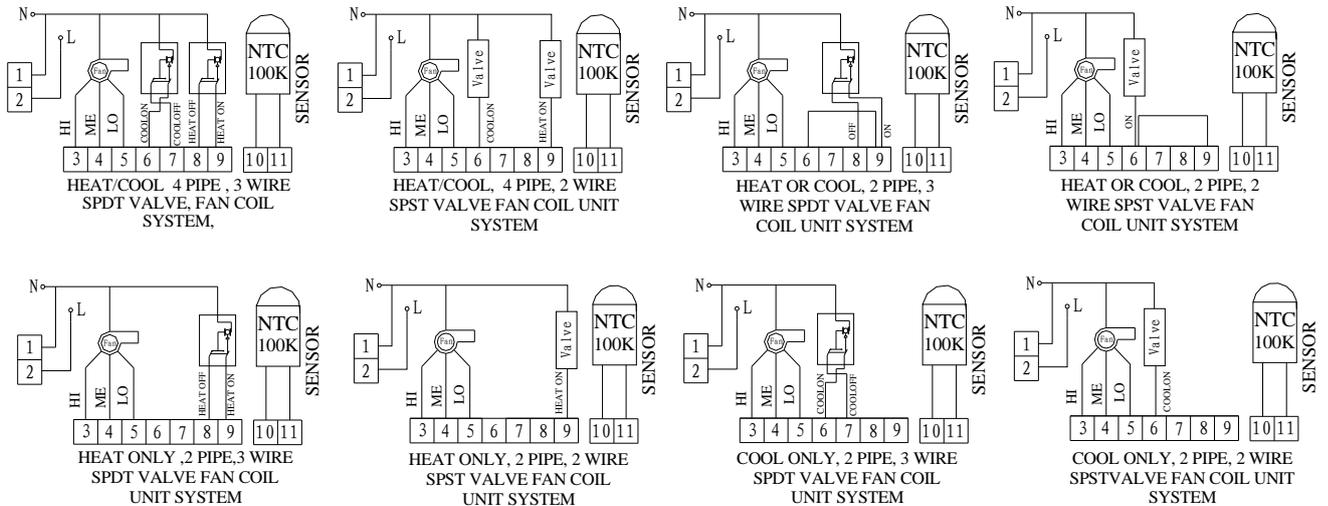

Figure 4
- Connect wires beneath terminal screws on power supply module using appropriate wiring schematic. See figure 4
- Replace control panel on the power base and fix power base and control panel by removed two screws in item 1